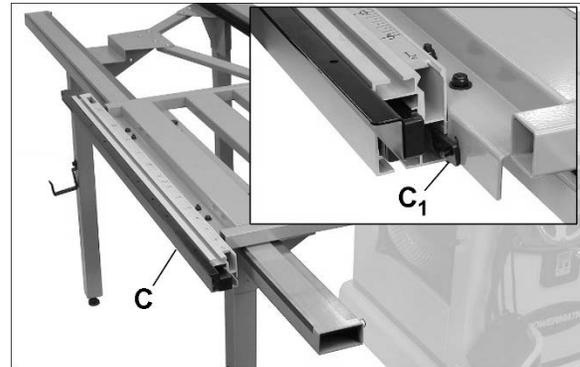
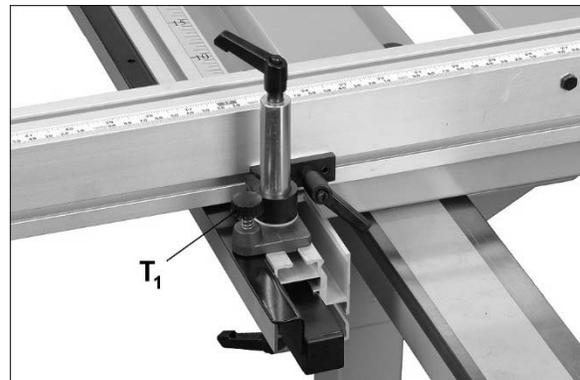

Figure 7-20
Figure 8-7
1. Slide angle adjusting rail (C, Figure 7-20) onto the two T-nuts ( $C_1$ ).
8. Loosen the two T-nuts on angle adjusting rail (see Figure 7-20), and slide angle adjusting rail while pushing down index pin (T1, Figure 8-7) until first hole from the end engages index pin.